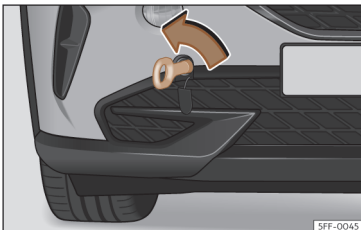

Fig. 202 Right side of the front bumper: towline anchorage screwed in.
- Screw the towing eye in the housing by turning it to the maximum **anticlockwise** >>> **Fig. 202**, >>> ⓘ. Use a suitable object that can completely and securely tighten the towing eye in its housing.